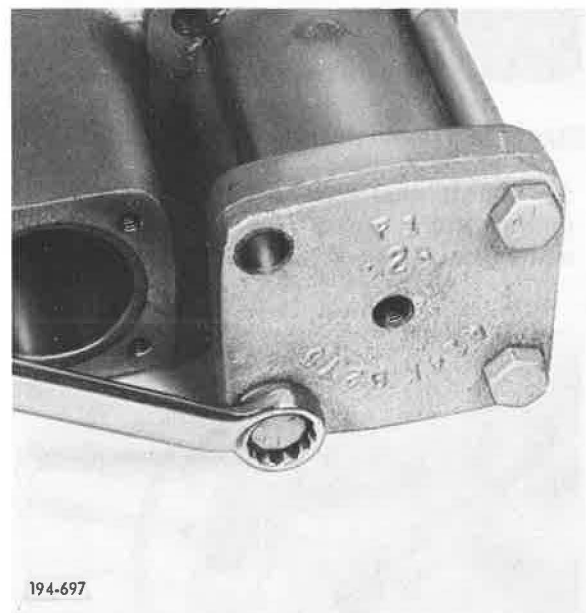

Figure 5-882. Installing Capscrews
16. Install Hi/Direct shift cover capscrews, and tighten to recommended torque. Refer to Torque and Tolerance Table, Item 2. See **Figure 5-882**.